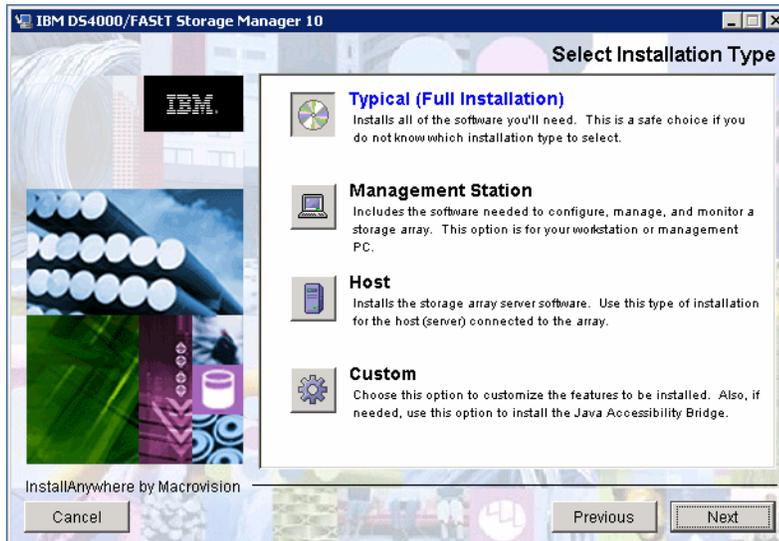

Figure 5-1 InstallAnywhere: Select installation type
4. Now you must select the installation type, as shown in Figure 5-1.